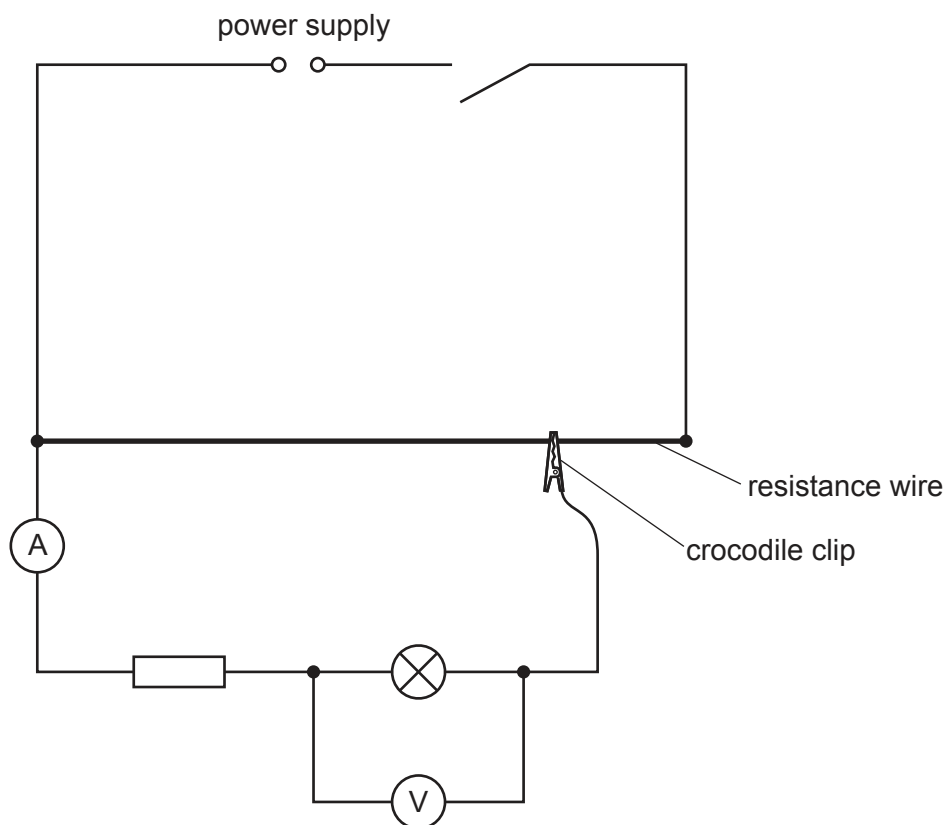

Fig. 3.1
- (vii) Sufficient connecting leads to set up the circuit shown in Fig. 3.1.
2. The circuit is to be set up for candidates as shown in Fig. 3.1. The position of the crocodile clip is not important.
Ensure that the circuit is connected as shown in Fig. 3.1.